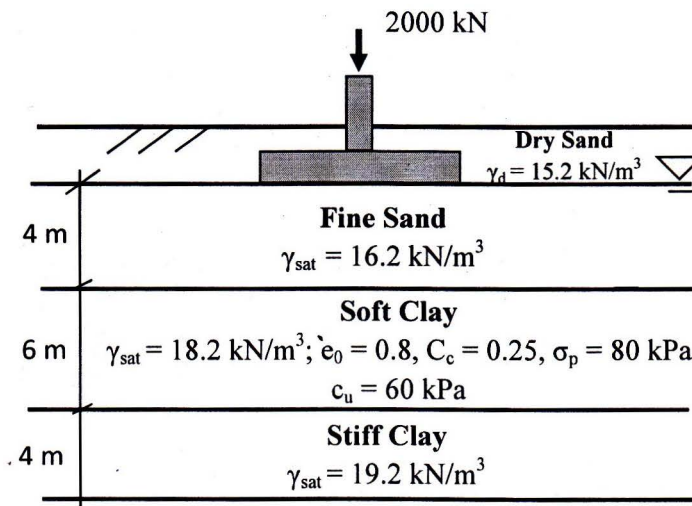

Figure 1
2. Calculate the settlement (due to primary consolidation of the normally consolidated clay layer) of the square footing of size 3 m x 3 m, shown in Figure 1. Use 2:1 pressure distribution. The depth of foundation is 2.5 m. 15